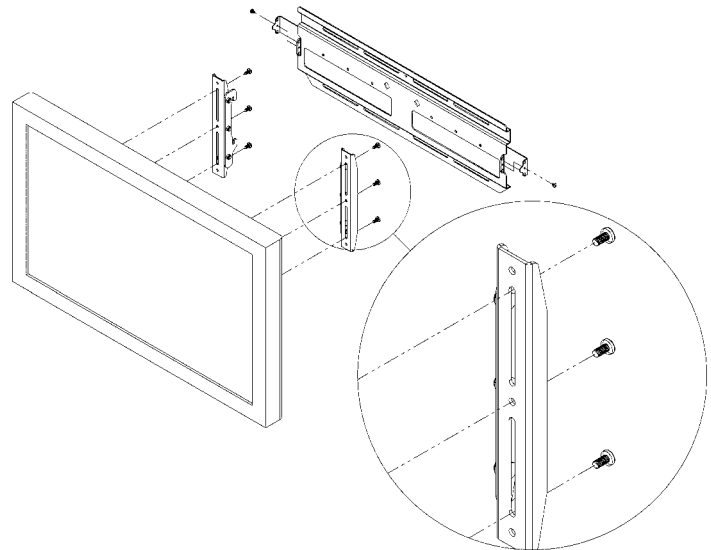

Figure 2. Place Brackets on Display
1. Place the interface brackets (20 and 30) on the back of the display, aligning the holes with the mounting inserts. See Figure 2.
2. Secure the left and right interface bracket assemblies (20 and 30) to the display using screws (40).